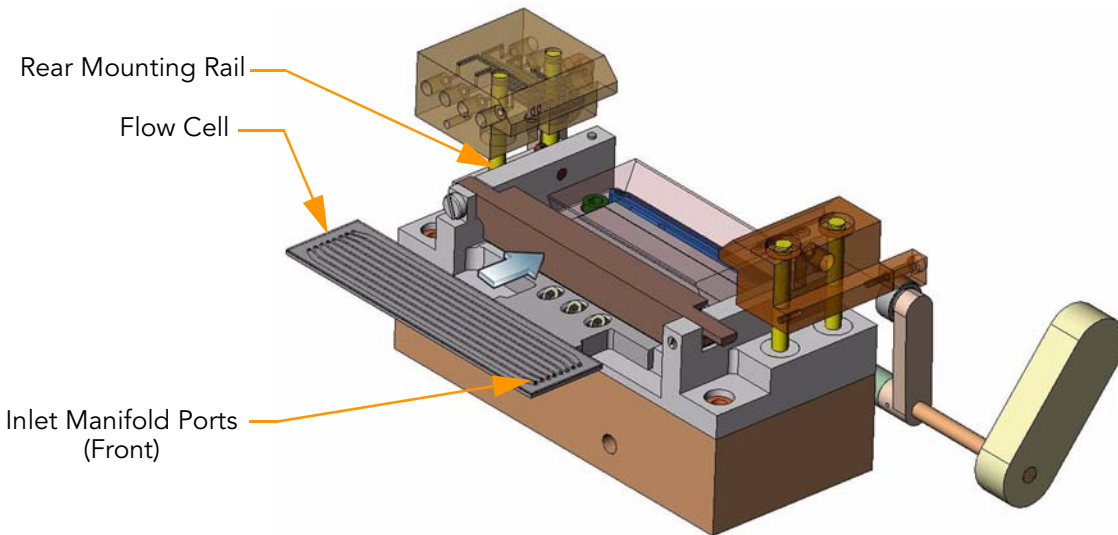

Figure 68 Loading the Flow Cell
1. Place the flow cell on top of the front and rear mounting rails, with the inlet and outlet ports facing *up*. Press it gently against the right stops (Figure 68).